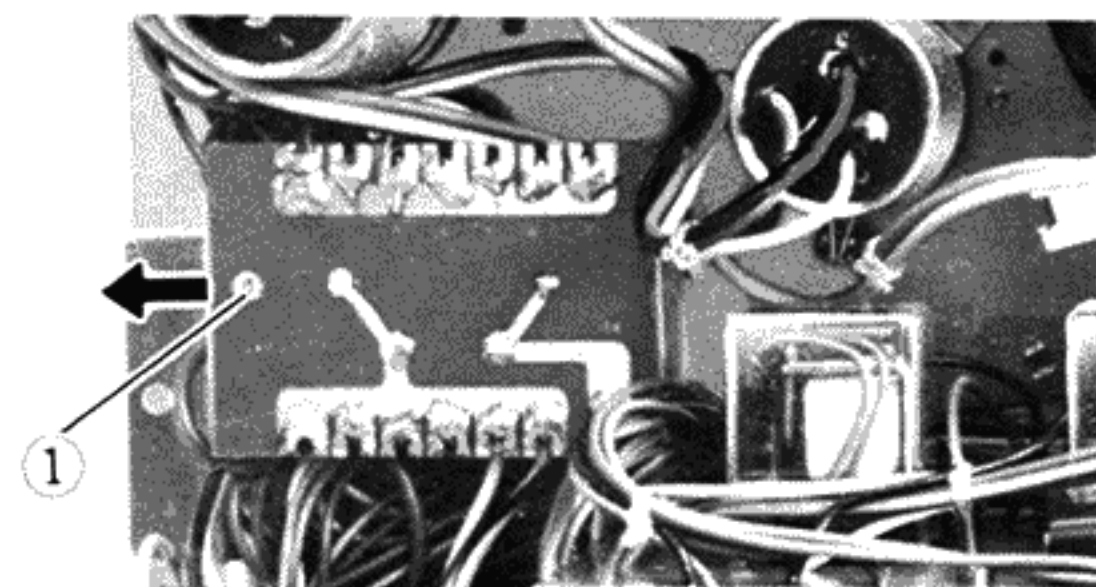

Fig. 11-1
1) Power rectifier circuit board (Fig. 11-1)